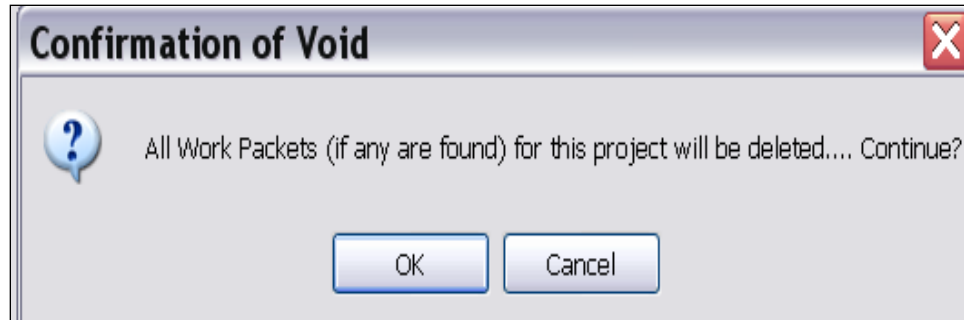

Figure 7-25: Confirmation of Withdraw or Void warning
- c. Whichever button is selected (Withdrawn or Void), the following warning message will appear. (Figure 7-25)